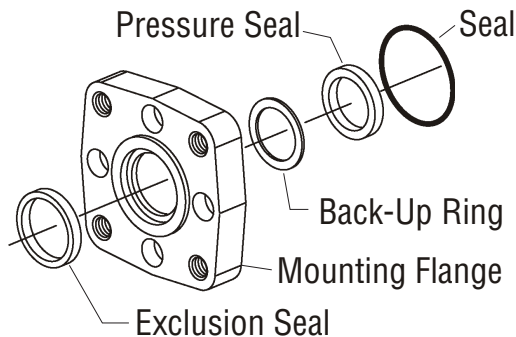

Figure 5-24, Mounting Flange Seals
- The exclusion seal, back-up ring, pressure seal and seal will come off with the mounting flange (Figure 5-24).